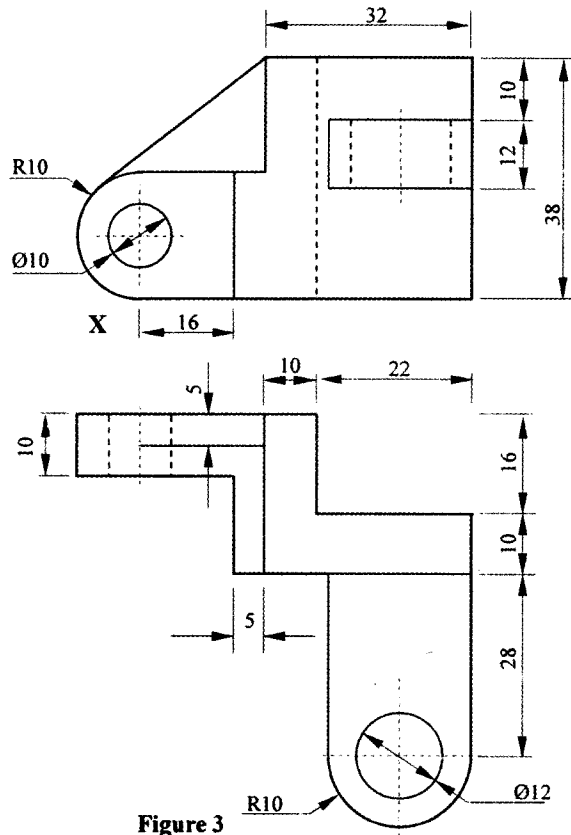

Figure 3
- 11** Figure 3 shows orthographic views of a block drawn in first angle projection. On the isometric grip paper provided draw the isometric view of the block taking X as the lowest end. (15 marks)